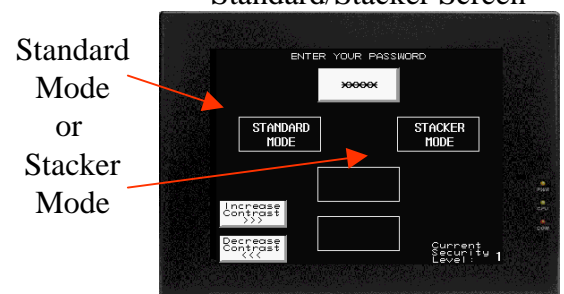

Fig 5
- 5 Press "Standard" or "Stacker" (fig 5) to finish
- 4 Enter "95125" Password (fig 5)